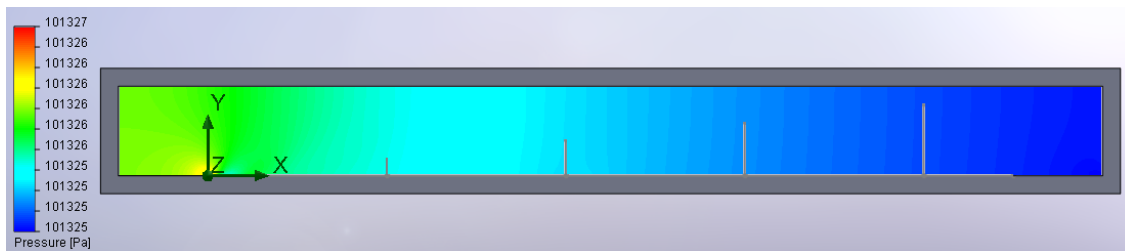

Figure 2.23a) Pressure distribution along the flat plate.
- Right click on Cut Plots in the COSMOSFloWorks analysis tree and select **Insert...**. Select the **Front Plane** from the FeatureManager design tree. Click on . Slide the **Number of colors:** slide bar to 101. Select **Pressure** from the **Parameter** drop down menu. Click on . Click OK to exit the **Cut Plot** window. Figure 2.23a) shows the high pressure region close to the leading edge of the flat plate. Rename the cut plot to **Pressure**. Repeat this step but instead choose **X-velocity** from the **Parameter** drop down menu. Rename the second cut plot to **X-velocity**. Figures 2.23b) and 2.23c) are showing the velocity boundary layer close to the wall.